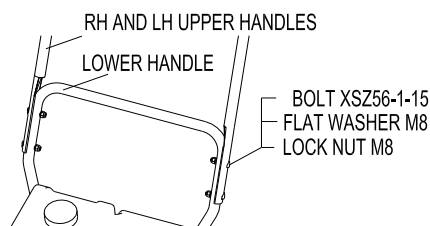

FIG 3
2.4.1 Assemble the RH and LH upper handles to the lower handle with (4) M8x45 carriage bolts, M8 washers, and M8 nuts. (FIG 3)